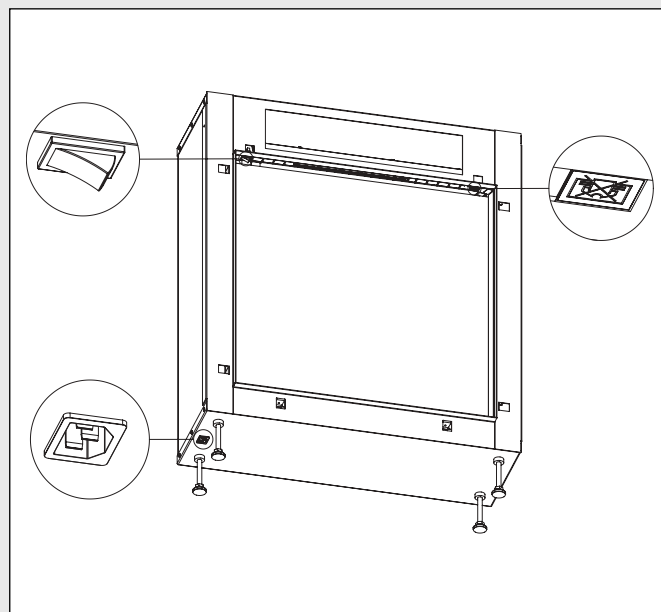

Figure 3
1. The symbol on the bottom next to the hot air outlet (**see figure 3**) indicates that the appliance becomes extremely hot at that point, and that if this outlet is covered, the appliance and/or the environment may become overheated.
The appliance can be switched on or off (see figure 3) by operating the switch at the top left of the appliance (0 or I).